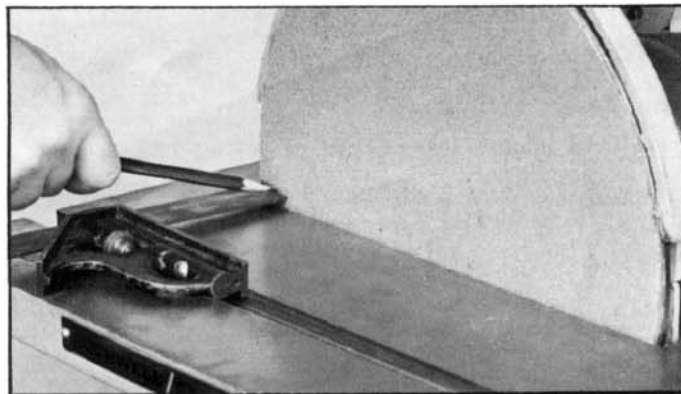

Fig. 5.
1. Check to see if the miter gage slot is parallel with the sanding disc by placing a square in the miter gage slot with one end of the square against the sanding disc, as shown in Fig. 5.
2. Using a pencil, make a mark on the sanding disc where the square contacts the disc, as shown in Fig. 5.